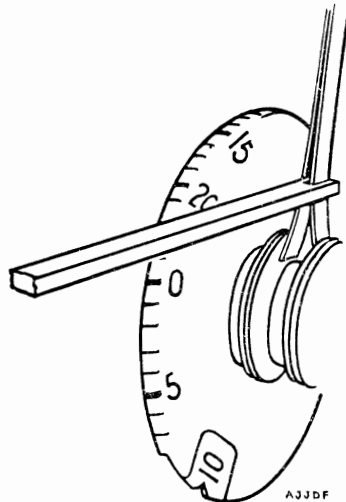

FIG. 33
- (ii) *To decrease tension.* With the mechanism in position, and using an Adjuster, Spring, No. 9, as shown in Fig. 33, gently lever the brush spring away from the collector ring.